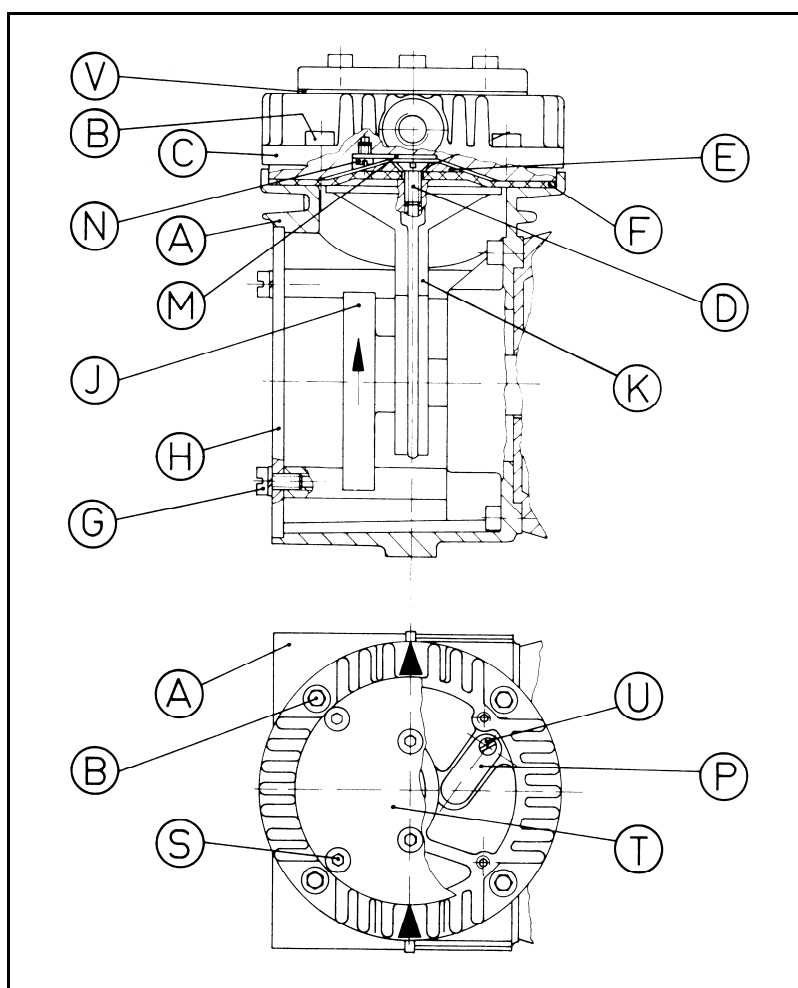

Fig. 6: Pump parts for versions with aluminium head
\*\*According to Fig. 6.
After diaphragm and reed valves (valve plate) have been replaced	→ Check the tubing for leaks. → Possibly carefully tighten the screws (B) and (S) (see fig. 6) crosswise.
According to Fig. 6